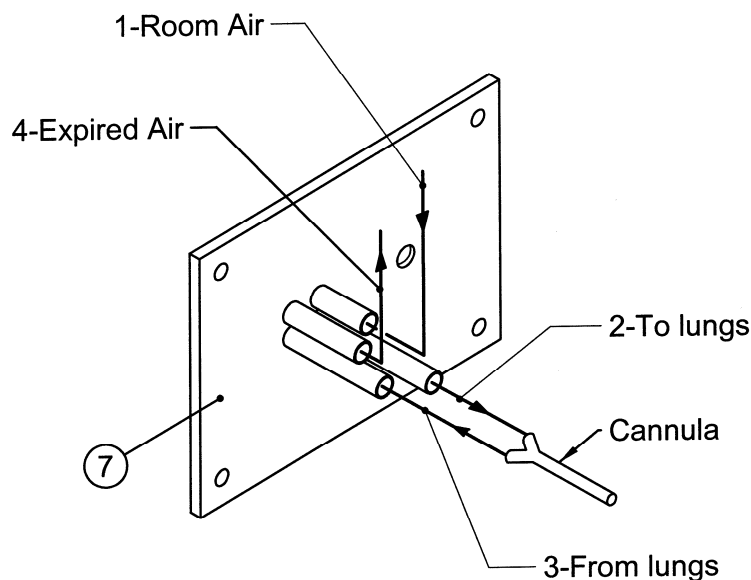

Figure 2 “The Connection Square”
The plate (7) is fastened to the structure of the Ventilator and is fitted with the air intake/outtake set. These four connection tubes form what we have christened *the connection square*, see Figure 2 “The Connection Square”, because the tubes are closely packed at the vertices of one cm square.
So close that the tubes have been cut in different lengths, to ease the insertion of the plastic or rubber tubing or input/output, also shown in Figure 2 “The Connection Square”.
The backbone of the instrument is a thick aluminium alloy plate (27) onto which most components are fastened: in Figure 7 “Exploded View” we find the geared motor (12), the PCB (printed circuit board) (11) and the stationary distribution plate (7) we have already met in paragraph 2.2.2, illustrated in Figure 2 “The Connection Square”.